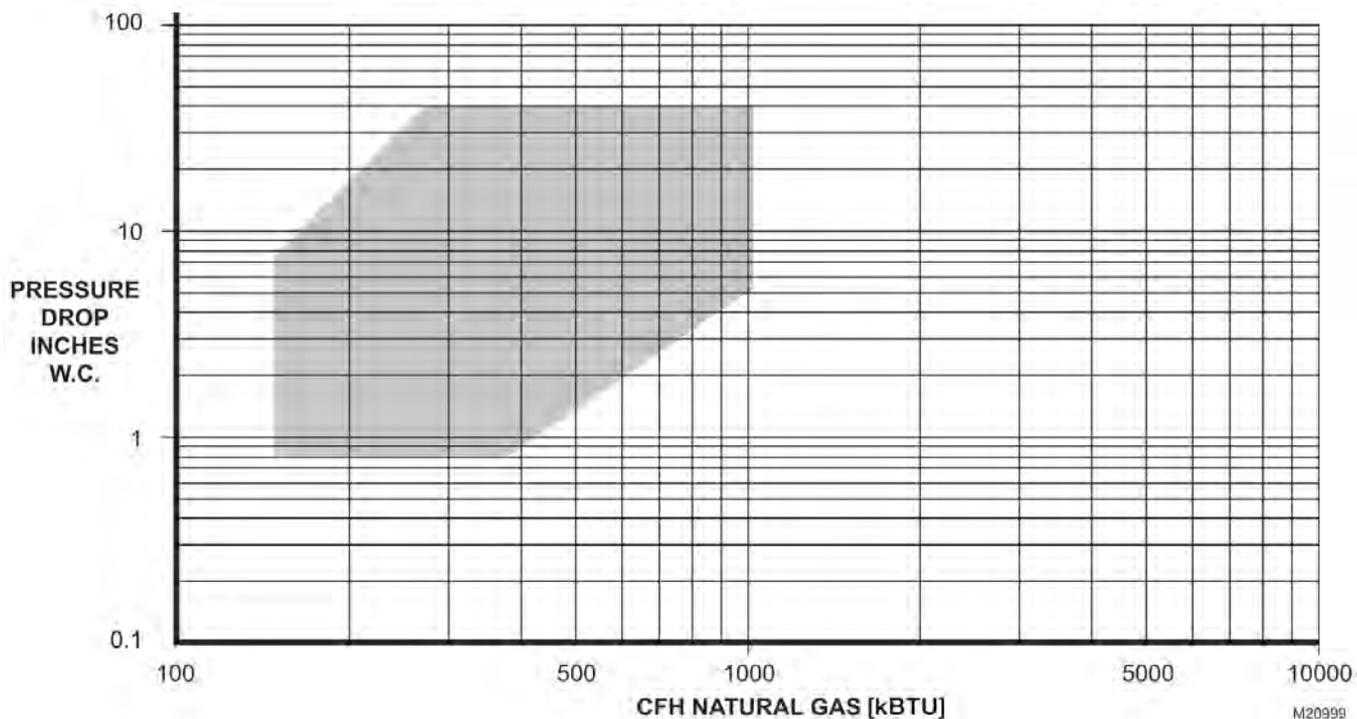

Fig. 11: Capacity curves for V4730C/V8730C and VMU 300 Venturi, 1 in. size.
2. Remove the slotted cap on the gas regulator using a slotted screwdriver. This will expose the offset adjustment screw (see Fig. 11).